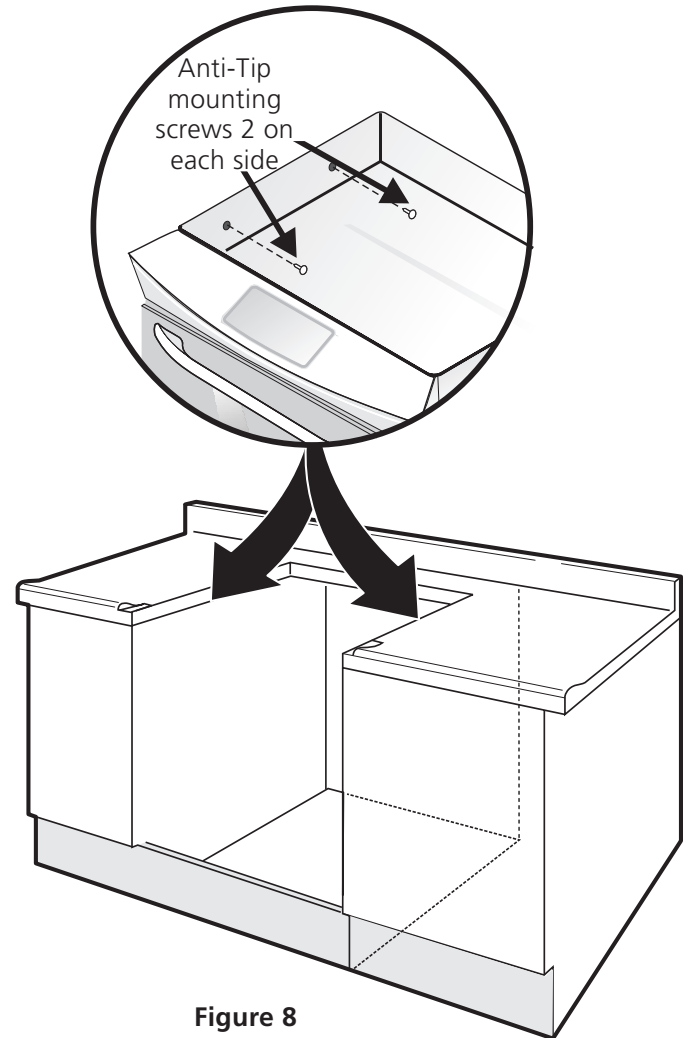

Figure 8
- Lift the cooktop and secure range burner box to cabinet with screws supplied to prevent range from tipping (Figure 8).